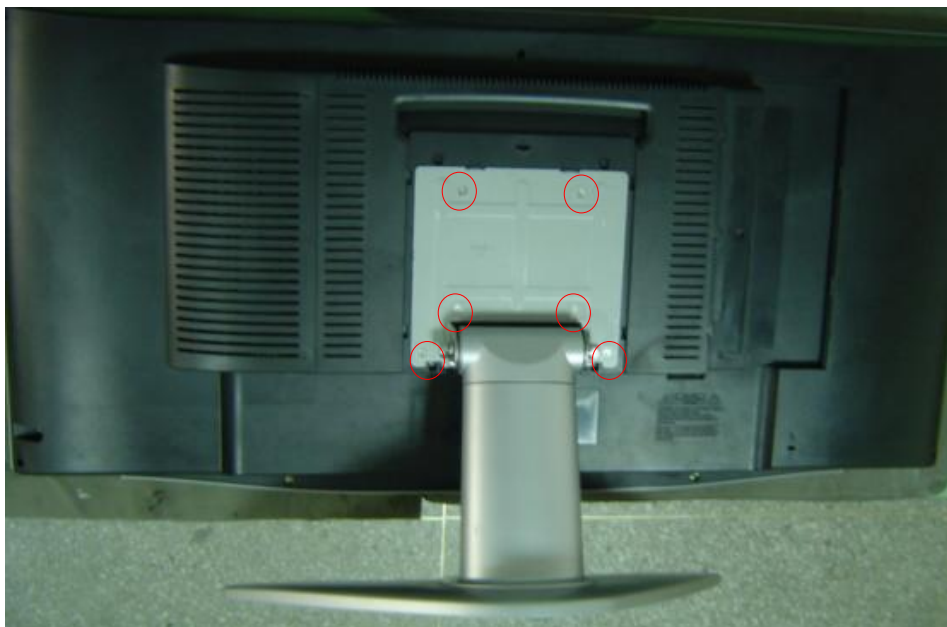

Fig2
2. Remove six screws to release stand base. (Fig 2)